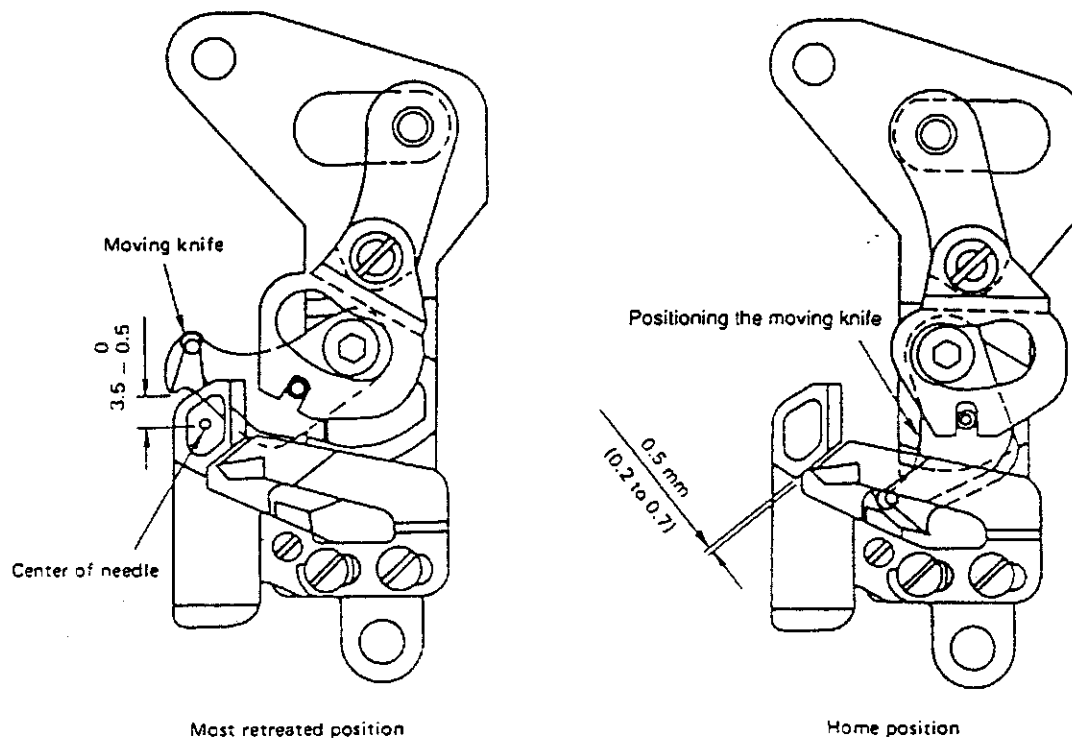
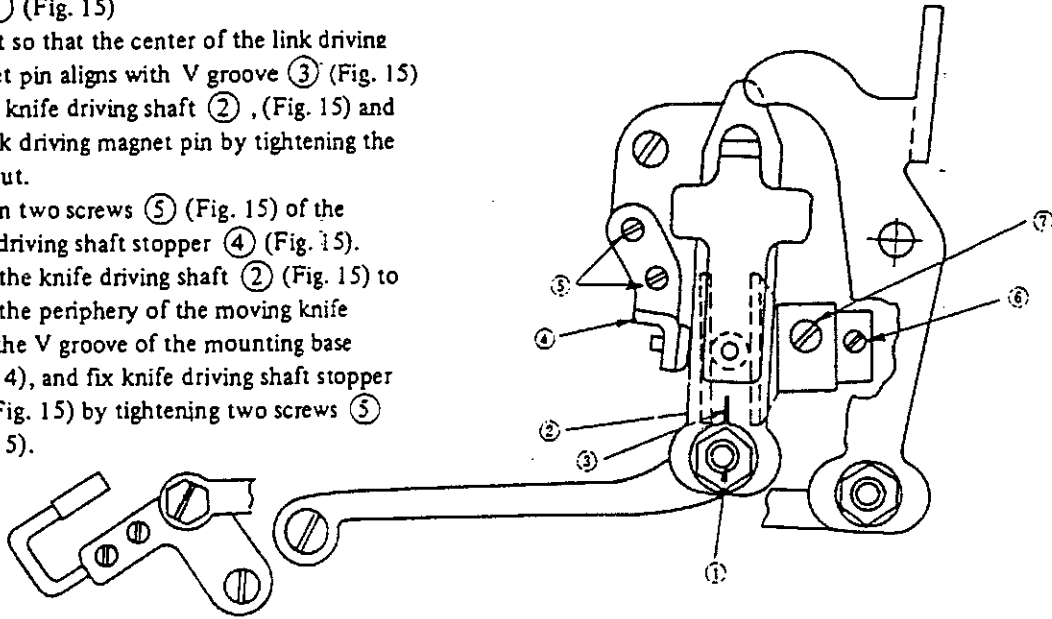

Fig. 14
Fig. 15
The position of the moving knife is adjusted by changing the lateral position of link driving magnet pin ① (Fig. 15) while the machine is at rest.
- ① Loosen the lock nut of link driving magnet pin ① (Fig. 15)
- ② Move the link driving magnet pin to the right or left to make the V groove (Fig. 14) meet the periphery of the moving knife, referring to the home position shown in Fig. 14.
- ③ Retighten the lock nut of the link driving magnet pin when the proper position of the moving knife has been obtained. As the link driving magnet pin is moved to the right, the retreat of the moving knife increases. As it is moved to the left, the retreat of the moving knife decreases.
- ① Loosen adjusting nut of link driving magnet pin ① (Fig. 15)
- ② Adjust so that the center of the link driving magnet pin aligns with V groove ③ of the knife driving shaft ②, (Fig. 15) and fix link driving magnet pin by tightening the lock nut.
- ③ Loosen two screws ⑤ (Fig. 15) of the knife driving shaft stopper ④ (Fig. 15).
- ④ Move the knife driving shaft ② (Fig. 15) to make the periphery of the moving knife meet the V groove of the mounting base (Fig. 14), and fix knife driving shaft stopper ④ (Fig. 15) by tightening two screws ⑤ (Fig. 15).
- ⑤ Loosen the two screws of thread trimmer cam ⑦ (Fig. 15) and cam collar ⑥ (Fig. 15).
- ⑦ Manually turn the cam until screw No. 2 ⑦ (Fig. 15) faces toward you. Then press the thread take-up picker to the right.
- ⑧ Move the cam to the right or left to engage the cam with the cam roller.
- ⑨ With the cam engaged with the cam roller, turn the cam in the direction of the arrow toward you) until it stops, while lightly pulling the cam to the right.
- ⑩ Tighten screw No. 2 ⑦ (Fig. 15) of the cam for preliminary installation.
- ⑪ Then confirm:
- ⑫ Securely tighten the two screws of the cam.
- ⑬ Press the thrust collar against the cam and fix it by tightening the screw.